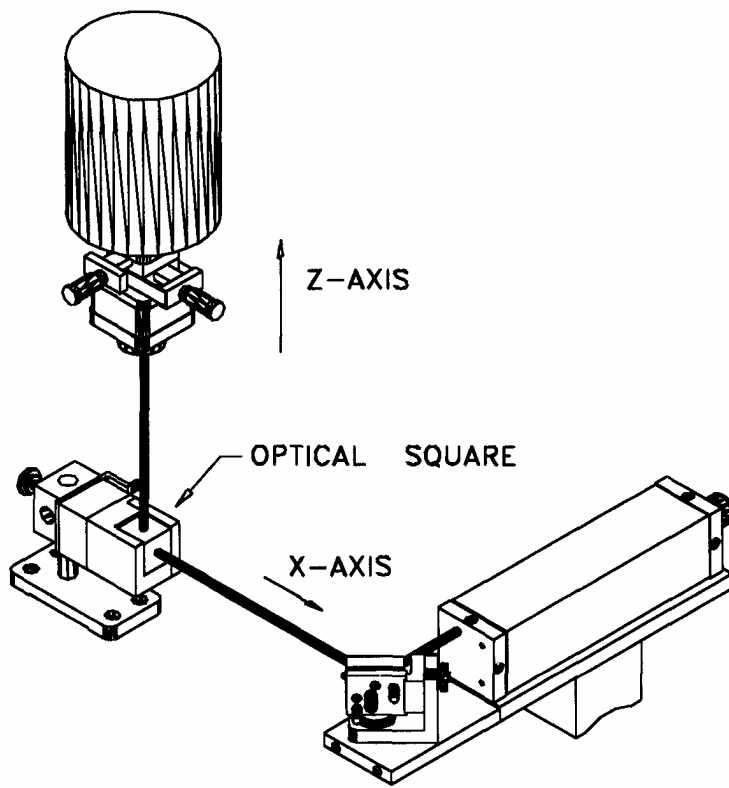
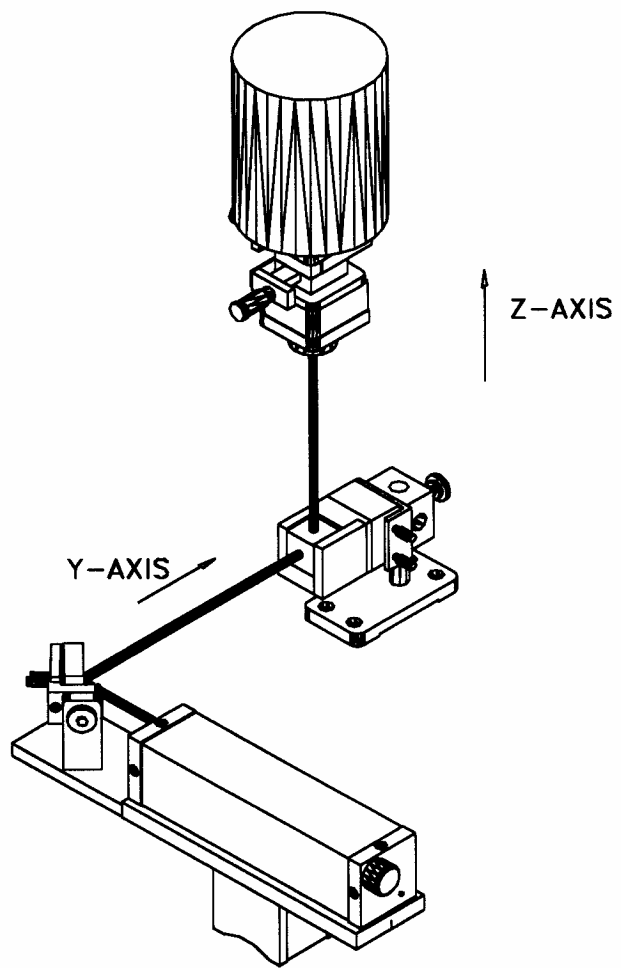

FIG. 10-17 SQUARENESS IN X-Z PLANE
FIG. 10-18 SQUARENESS IN Y-Z PLANE
2. A typical setup for the measurement of squareness is the XZ plane, as shown in Fig. 10-17. Squareness in other planes is shown in Fig. 10-18 and 10-19.
7. Squareness in XY and YZ planes is measured in a similar way (see Figs. 10-18 and 10-19).